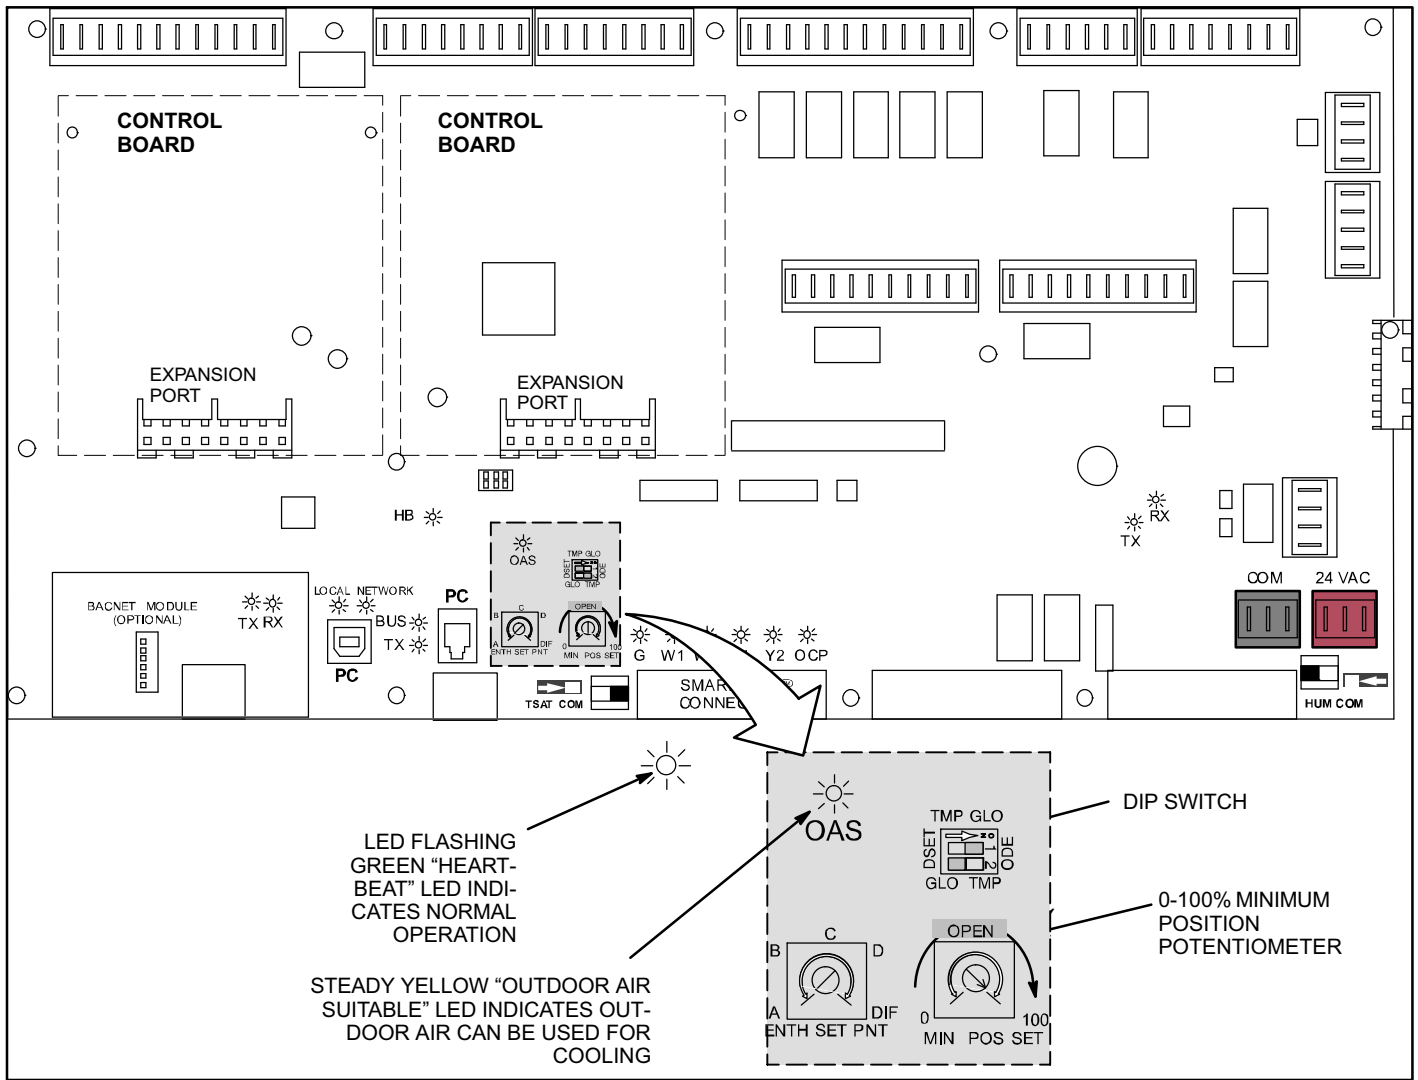

Figure 5. Economizer
9. For outside air damper control (see figure 5, Page 5):